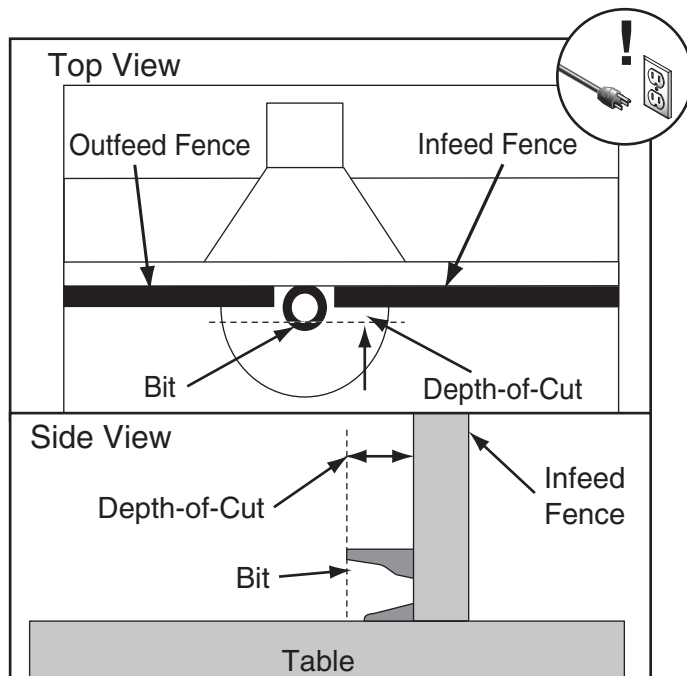

Figure 35. Profile routing setup.
3. Raise router bit to desired height, then adjust fence so it sits behind the bit the same distance as desired depth-of-cut (see **Figure 35**).